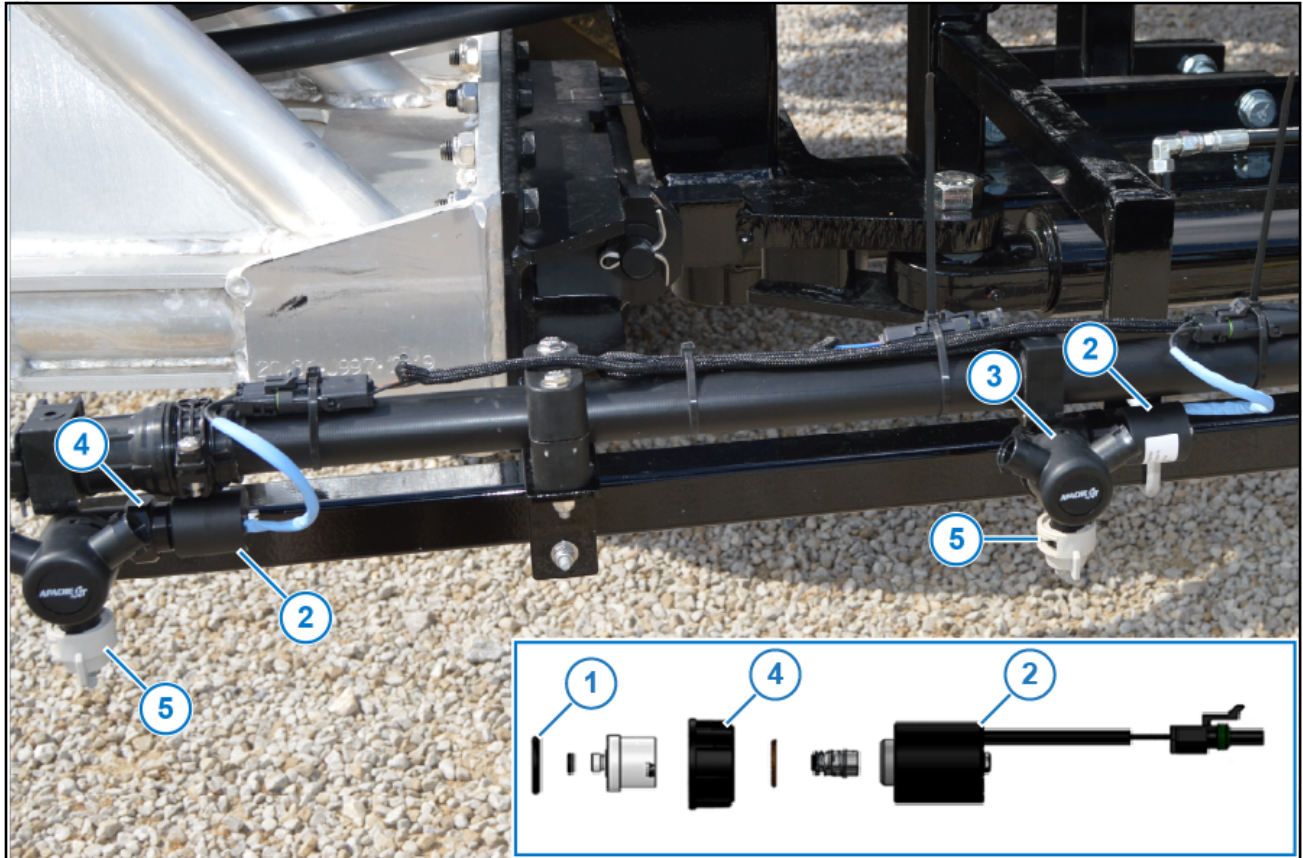

Figure 12: Nozzle Valve Assembly
2. Install the O-ring (Figure 12, Item 1) onto the nozzle valve assembly (Figure 12, Item 2).
3. Install the nozzle valve assembly onto the nozzle body (Figure 12, Item 3).
4. Tighten the fly nut (Figure 12, Item 4).
5. Install and tighten the spray tip (Figure 12, Item 5).